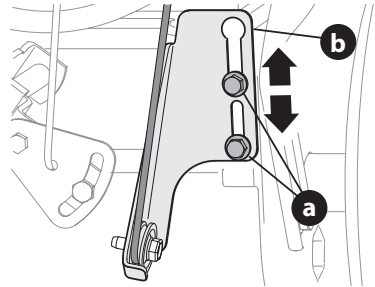

Figure 58
5. Loosen the two hex screws (a) on drive cable bracket (b) (Figure 58).